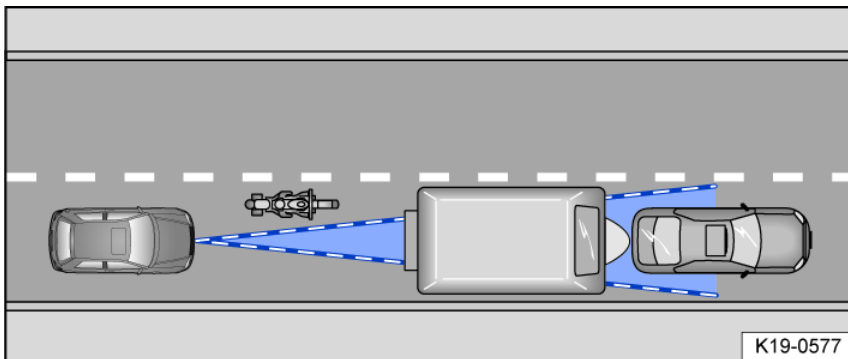

Fig. 98 Narrow vehicle.
- If there are vehicles that are driving close to your vehicle but outside the sensor range, such as motorcycles fig. 98.